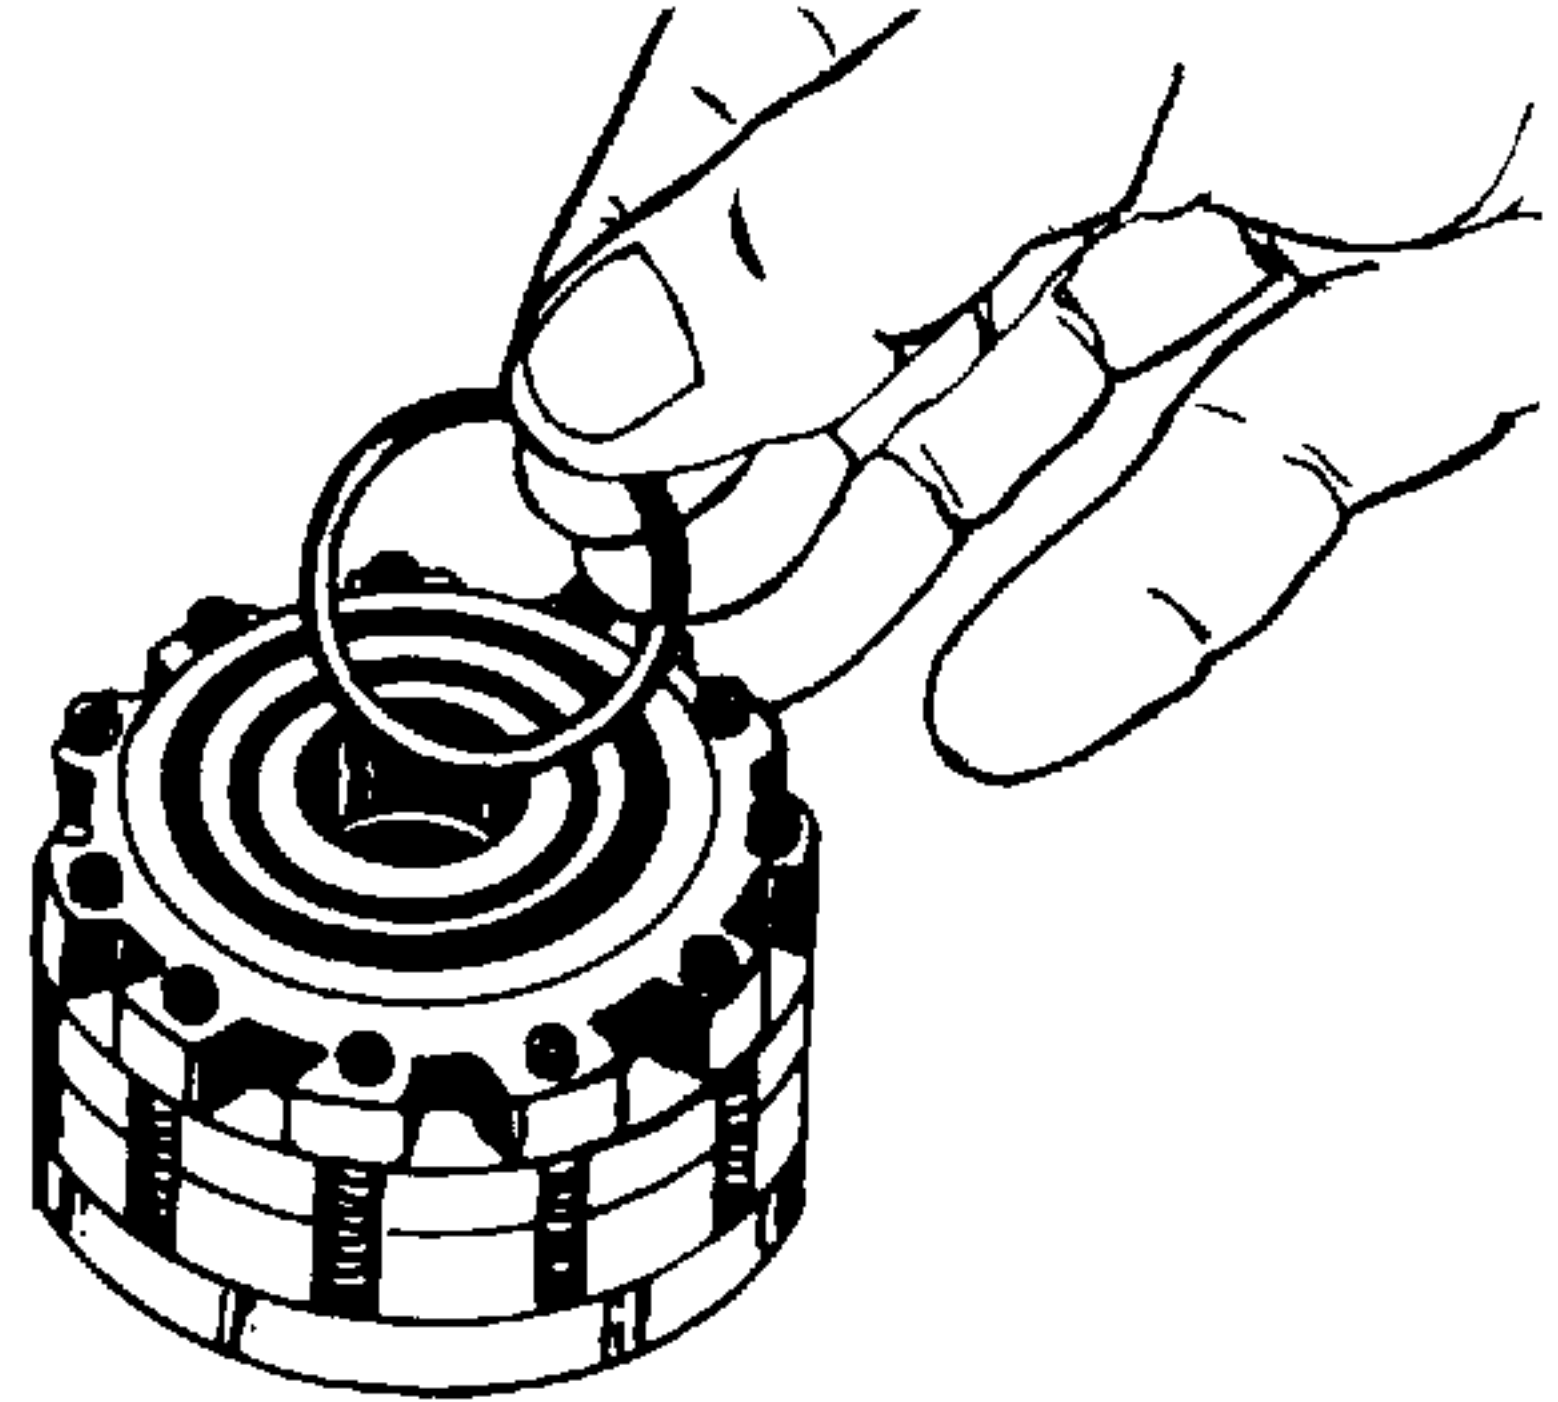

Figure 4-23. Removing Commutator Seal.
25. Remove and discard the commutator cover seal (17, Figure 4-1) from the commutator cover (18). See Figure 4-23.